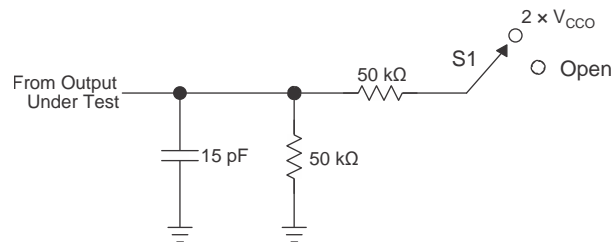
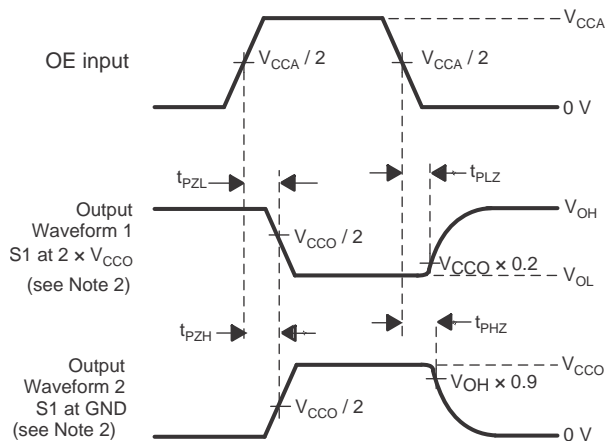

Figure 6. Load Circuit for Enable-Time and Disable-Time Measurement
Figure 9. Enable and Disable Times
- Waveform 1 in Figure 9 is for an output with internal such that the output is high, except when OE is high (see Figure 6). Waveform 2 in Figure 9 is for an output with conditions such that the output is low, except when OE is high.